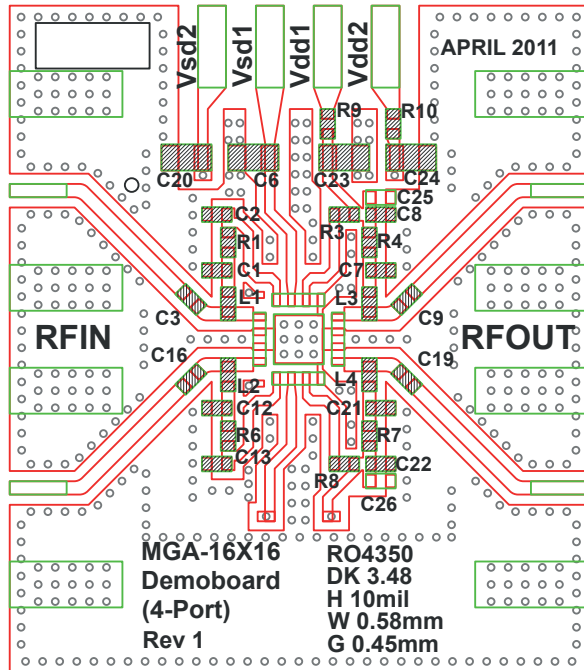
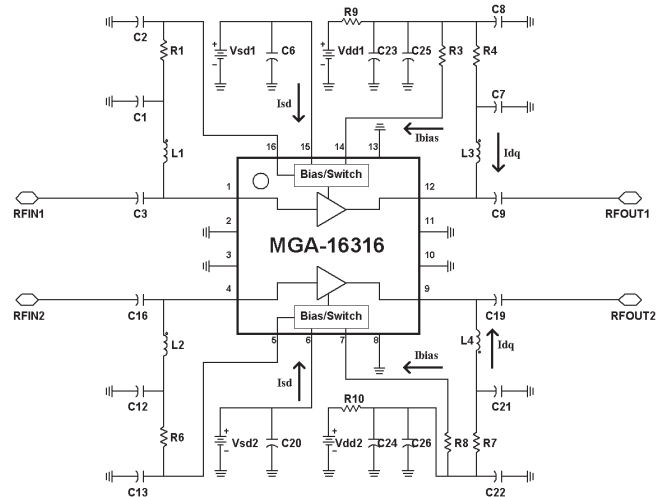

Figure 5. Demo Board Layout Diagram
Figure 6. Demo Board Schematic Diagram
4. Refer to Figure 6 for more details.
7. Bias to each LNA is adjustable using R3 and R8 (see Figure 6). Increasing R3 and R8 will reduce bias current (I_{dd}) and vice-versa.
RF performance at $T_A = 25^\circ\text{C}$, $V_{dd} = 4.8\text{V}$, $I_{dd} = 53\text{mA}$, LNA mode, measured on demo board in Figure 5. Signal is CW unless stated otherwise. Application Test Circuit is shown in Figure 6 and Table 1. IIP3 test condition: FRF1-FRF2 = 1 MHz with input power of -20 dBm per tone.
2. Rbias is R3 and R8 from Figure 6.